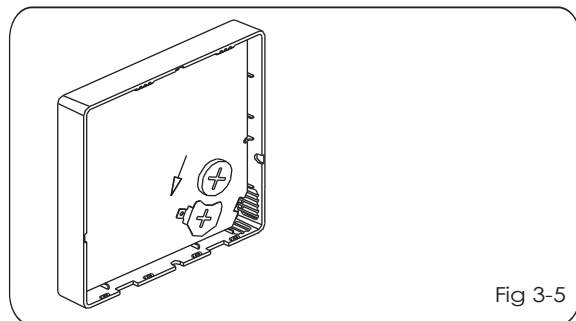

Fig 3-5
4. Install the battery in the rear of the control, make sure the positive side of the battery is correctly aligned on the positive side of the battery connection. (See Fig.3-5)